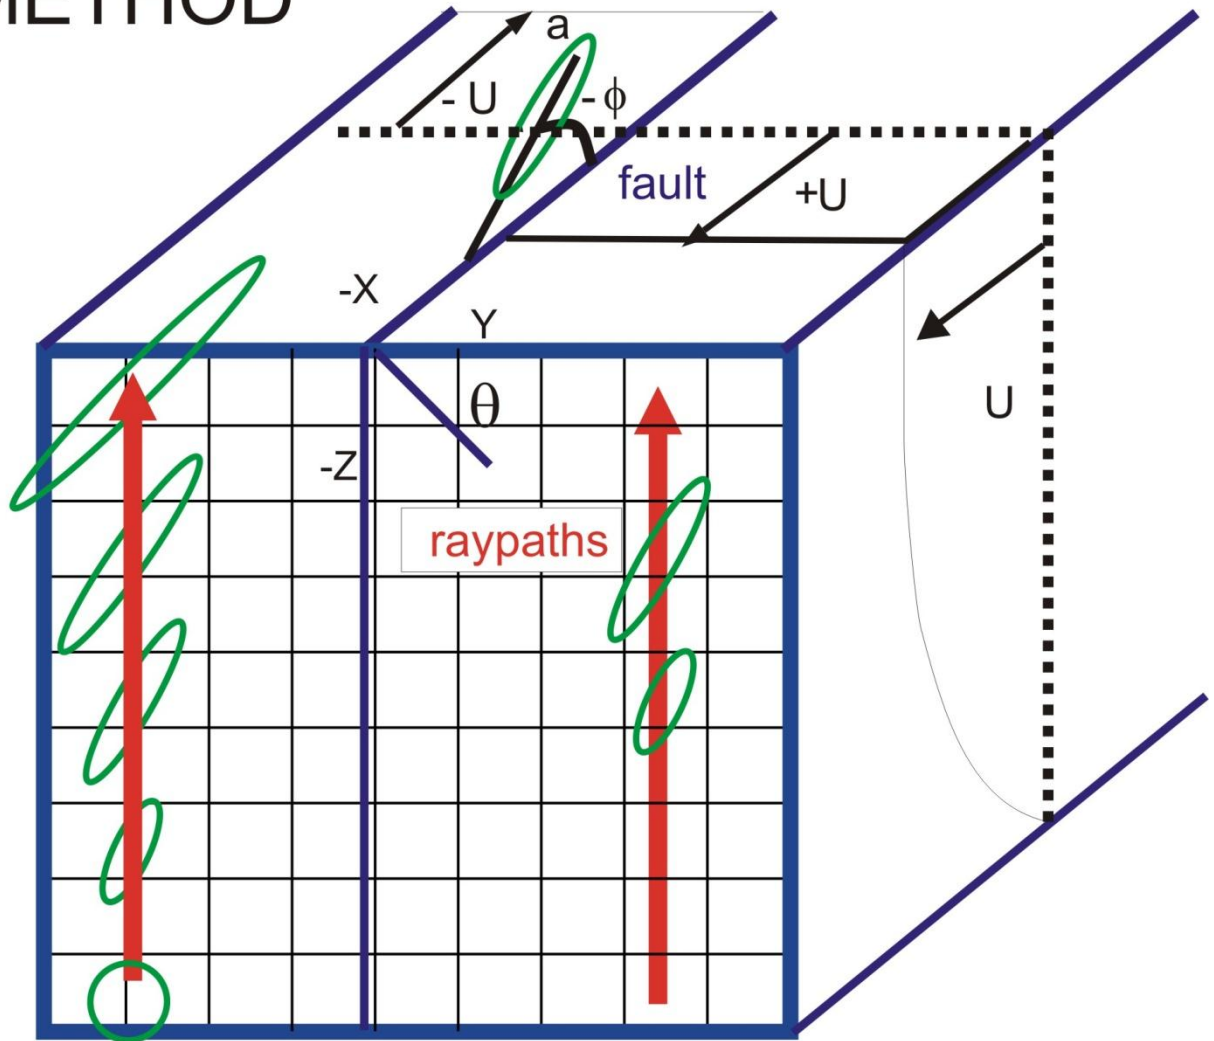

Fig. 1
4. The steady-state solution to the heat equation is found by setting the time derivative of temperature to 0. Thus, it becomes Laplace's equation, or $\nabla^2 T = 0$. This equation can also result from fluid flow in special circumstances. The one we will discuss here is that of the horizontal velocity $u(y,z)$ in the mantle beneath a transform (strike-slip) plate boundary, where the motion of the fault is in the x direction. Beneath a very long transform, the velocity components v and w vanish because u is independent of x (Figure 1). The equations of motion for three dimensional
Figure 1. A diagram of the model setup for determining mantle flow due to a strike-slip fault at the surface. The strike-slip fault is modeled as a break with the boundary condition that the velocities on either side of the fault are parallel to the fault and in opposite directions to each other.